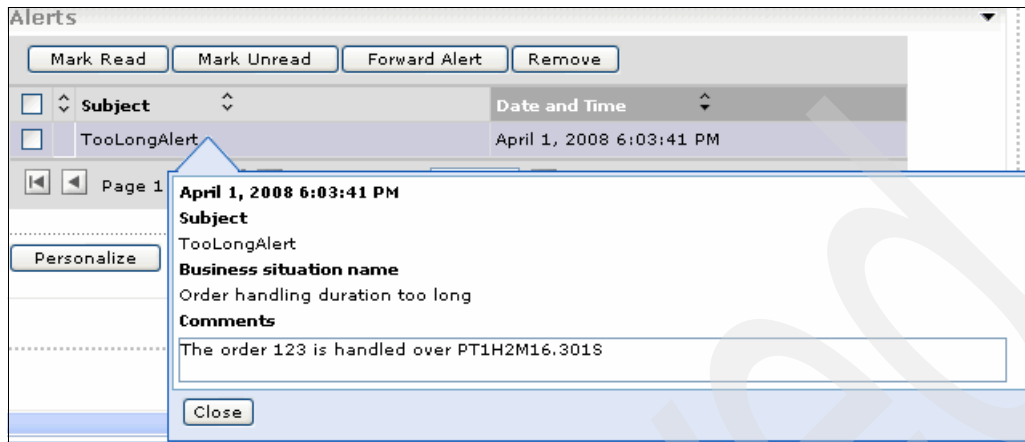

Figure 8-166 Alert details
17. On the Alerts page (Figure 8-166), under the Subject column, click the alert and check the alert details.